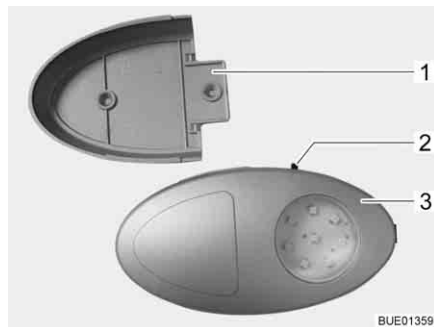

Fig. 44 Wardrobe light
- ▷ The wardrobe light can be removed from its holder (Fig. 44,1) and used as a torch.
The On/Off switch (Fig. 44,2) is located directly on the wardrobe light (Fig. 44,3).